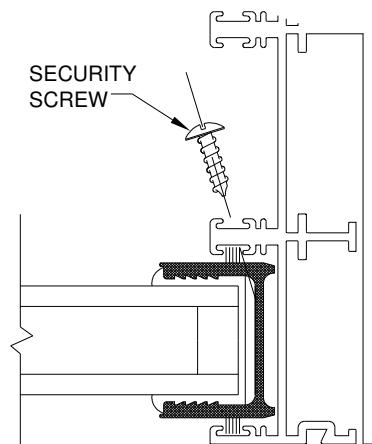

Figure 18:
- **"O" Panel** - Lift and move the panel into the fixed jamb as far as possible. Verify that the weather stripping in the frame head is located so that it contacts the width of the "O" panel. Installing the fixed panel security screw: Using a 1/16" diameter bit, drill a hole into the fixed stile through the hole shown in Figure 18. Then insert a black #8 x 3/4" self threading screw.